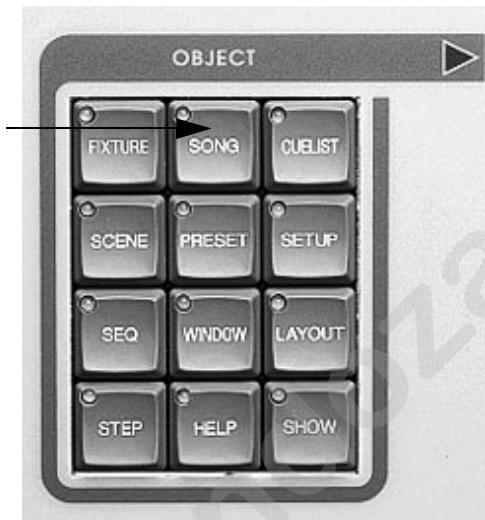

Figure 7.14. OBJECT Group
1. Press the <SONG> key in the OBJECT group (Figure 7.14). Alternately select **Song** from the **Object** drop-down menu.